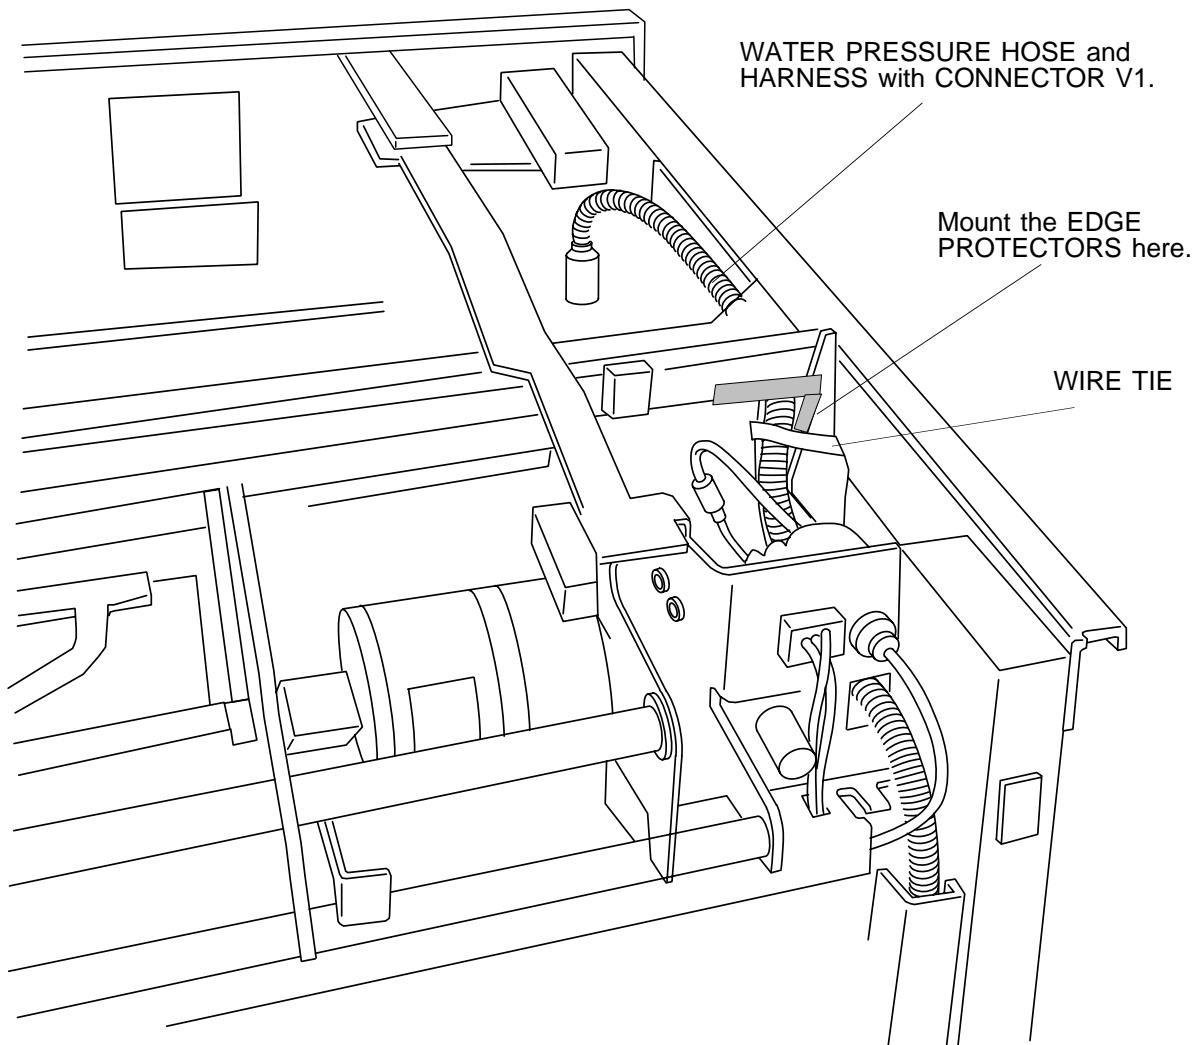

figure 2-13
31. Route the WATER PRESSURE HOSE and the HARNESS (with CONNECTOR V1) along the FRAME to the rear and down through the CABLE DUCT. Mount the EDGE PROTECTORS to the FRAME. See figure 2-13 and 2-14